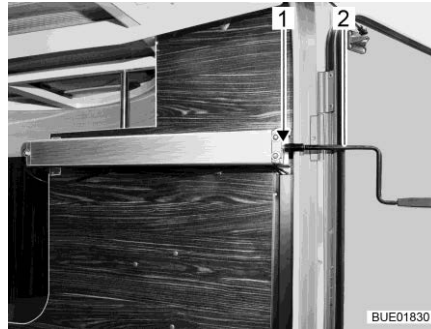

Fig. 125 Crank in the rear garage
- Attach the crank (Fig. 125,2) onto the journal (Fig. 125,1).